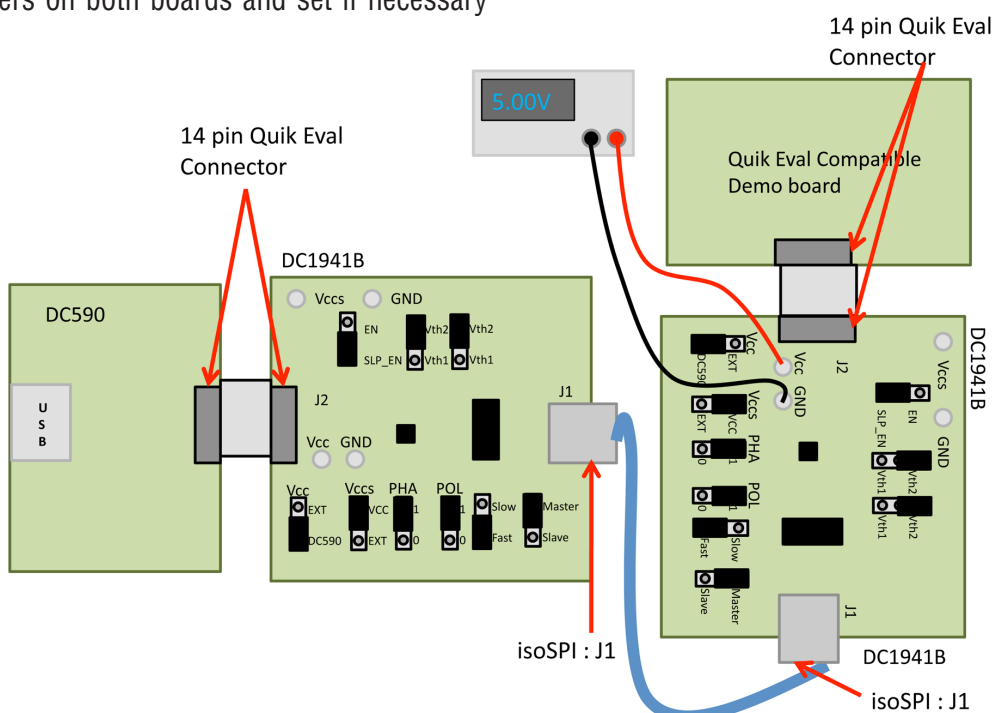

Figure 6. Hardware and Jumper Settings to Connect Two DC1941s and Add isoSPI Capability to a Standard SPI Slave
4. Check Jumpers on both boards and set if necessary (Figure 6).